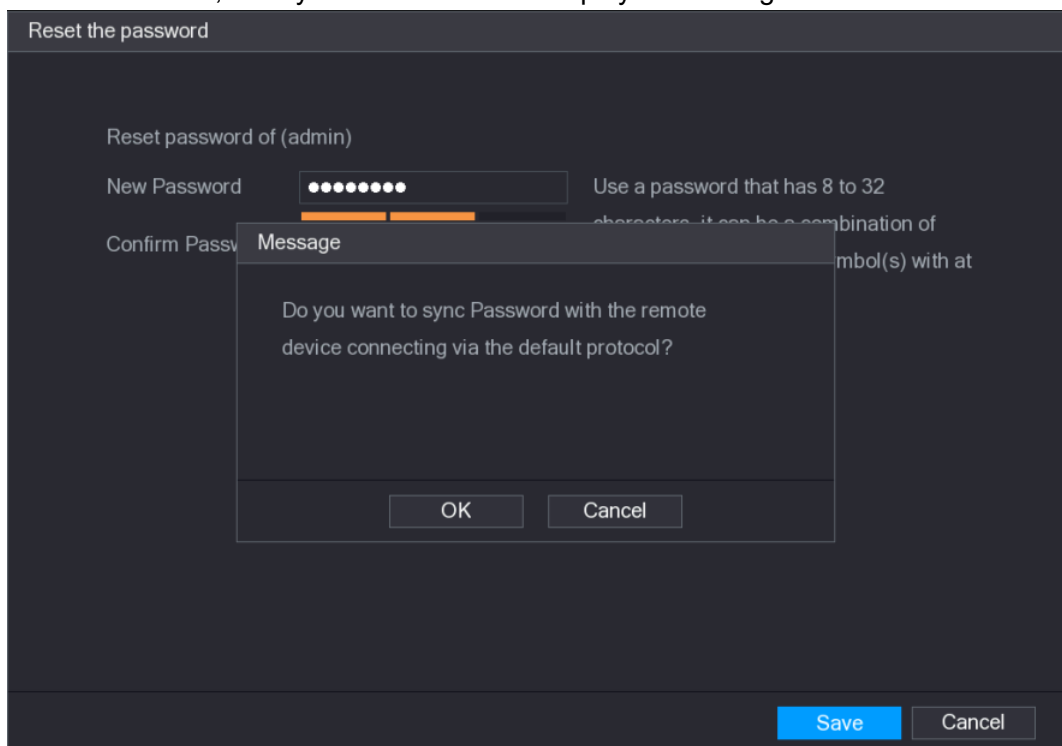

Figure 5-10
A pop-up message is displayed asking if you want to sync the password with the remote devices, see Figure 5-10.
- Click **OK**, the Sync Info interface is displayed. See Figure 5-10.